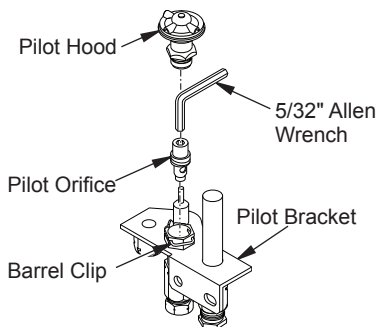

Figure 57 - Converting Pilot Orifice
1. Remove pilot hood by pulling up until it disengages from barrel. Do not remove retainer clip (see Figure 57).